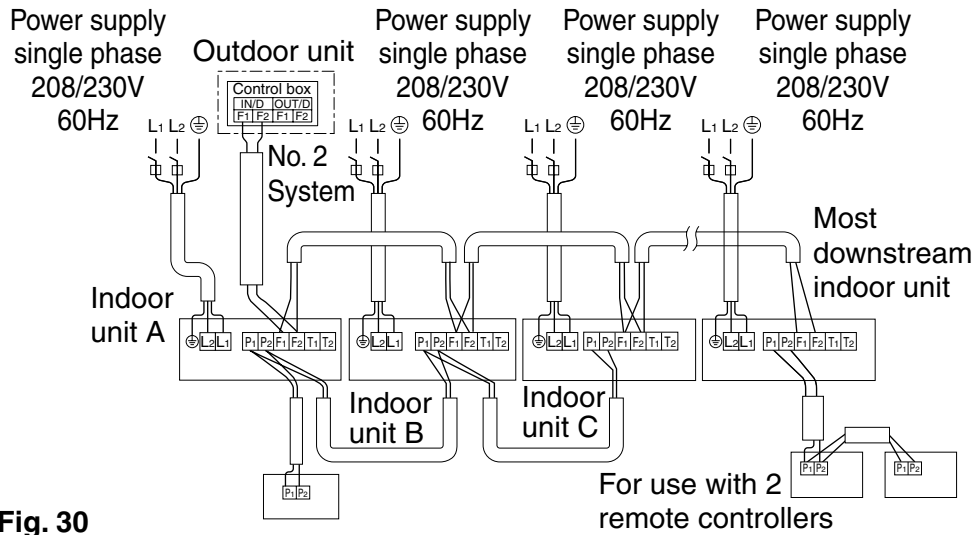

Fig. 30
(3) Remove the control box lid
(4) Add remote control 2 (slave) to the terminal block for remote controller (P1, P2) in the control box. (There is no polarity.) (Refer to Fig. 30 and 8-3.)